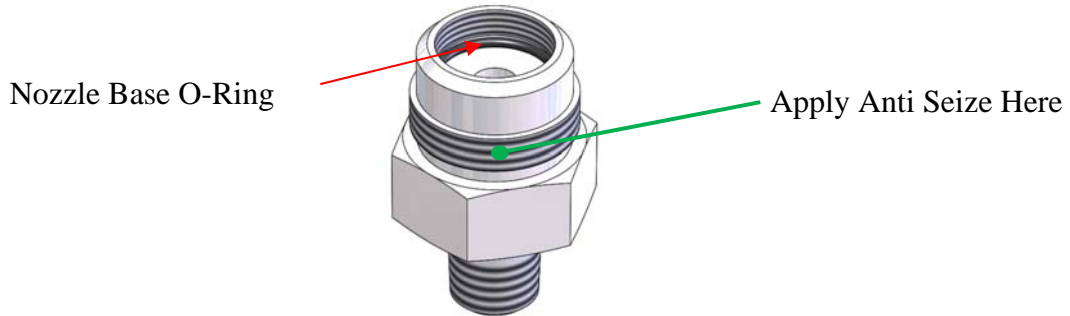

Figure 47: Nozzle Pocket of Bottom Entry Valve
13. Install the nozzle base o-ring into the lower corner of the nozzle pocket. See Figure 47.
25. Put a small amount of anti-seize on the threads of the inlet base that get screwed into the body. See Figure 47.